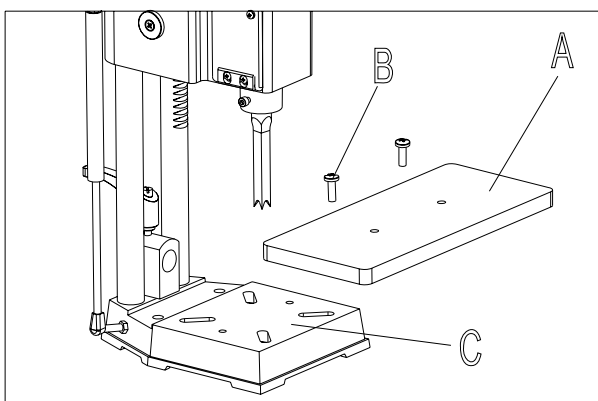

Fig6
1. Assemble the table (A) Fig. 6, to the base using the two M6x1x35mm flat head screws (B). Insert the two screws (B) into the two holes (D) in table (A). Place the two T-nuts (C) into the slots (E) provided in the bottom of the base and tighten the two screws (B) into the two T-nuts (C) securely.
2. The table (A) Fig. 6, can be moved in or out by loosening the two screws (B), and re-positioning the table, and then tightening screws (B).